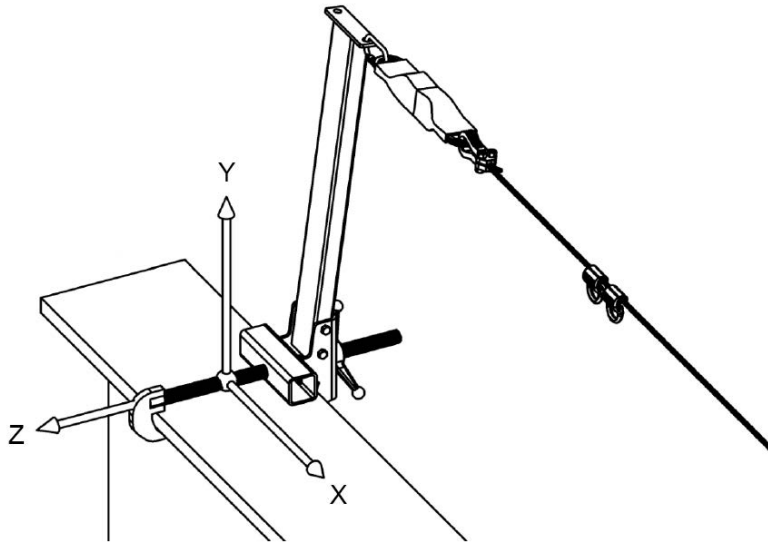

Figure 4
The beam or concrete to which the stanchion is attached must be able to supply support for the Anchor Load (AL) and Anchor Moment (AM) limits specified in Figures 4 and 6 during a fall arrest. When more than one system is installed on a beam or concrete, the beam or concrete must be able to supply support for the cumulative Anchor load (AL) and Anchor moment (AM) of the total number of systems.